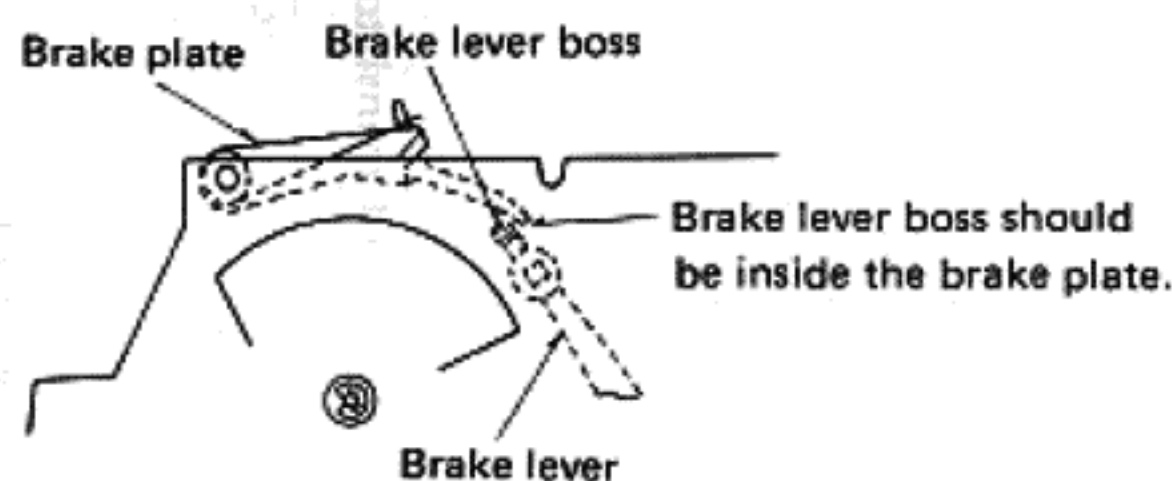

Fig. 5
- (1) Turn the shaft to rotate the main gear until no remaining of the gear.
- (2) The brake lever boss of the lift base should be inside the brake plate (cuing up). (Fig. 5)